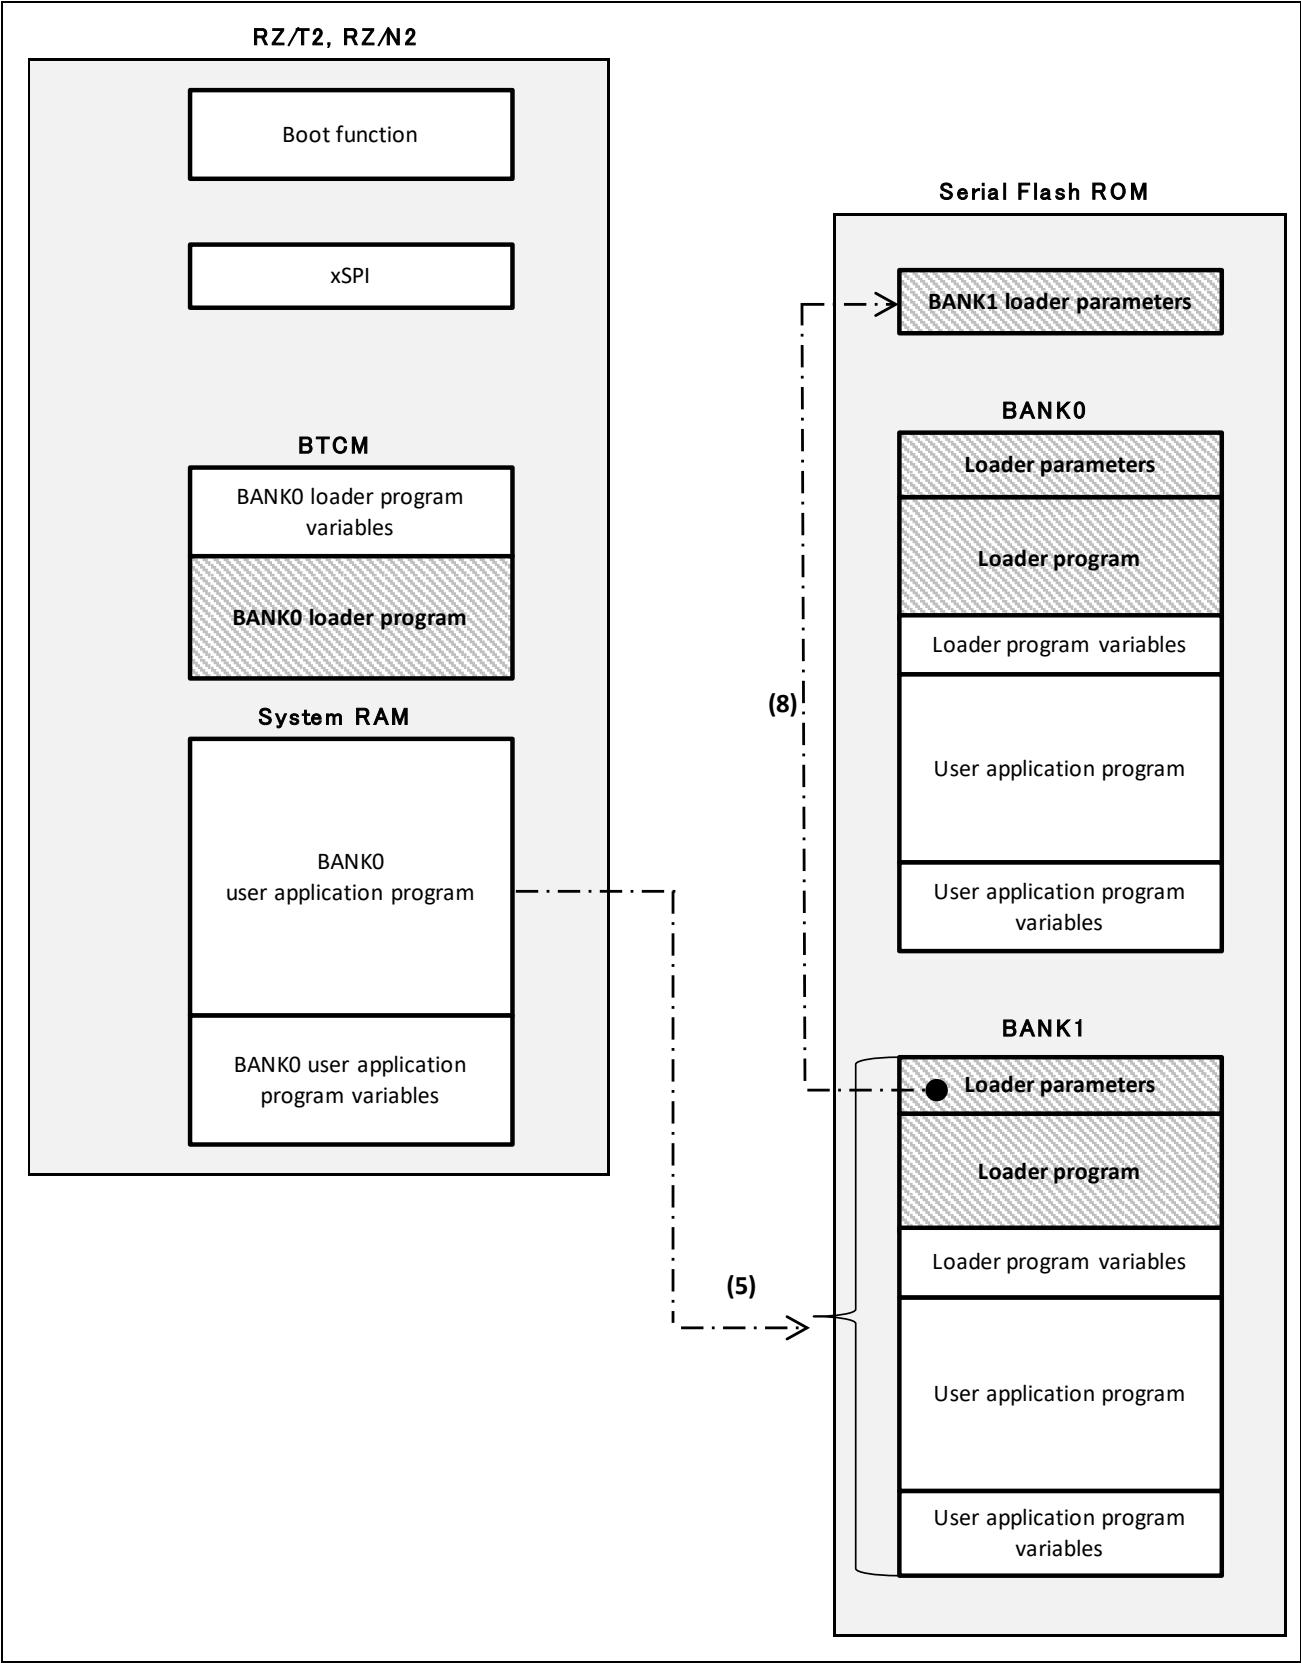

Figure 8.3 Operation for Updating Firmware in Bank 1
The following describes operation for updating the firmware by using the FoE while a user application program is running from the System RAM, with the procedure illustrated in Figure 8.3, Operation for Updating the Firmware in Bank 1.
- (1) The master sends the filename and password of the binary file for the updating firmware at the opening of the FoE, so check if the prefix of the filename and the password are correct. If they are correct, reception of binary data starts.
- (2) Erase the boot loader parameter area at the beginning of the serial flash ROM.
- (3) If the firmware update is interrupted for any reason, copy the BANK0 loader parameters to the boot loader parameter area so that the factory firmware can be started.
- (4) One sector (64 KB) is erased from the address where bank 1 starts. During erasure, the busy status indicator is returned so that the master does not reach the timeout time.
- (5) Data are received on completion of the erasure. The checksum attached to the received data is compared with the calculated. The data are stored in the reception buffer allocated for the storage of user application program variables in the System RAM. The data in the reception buffer are written to the serial flash ROM every time one page (256 bytes) of data is accumulated. An ACK packet is returned to the master.
On completion of writing one sector of data, erase the next sector (Figure 8.3 -(5) in the figure).
- (6) Repeat step 3 until writing all receiving data ends.
- (7) Erase the boot loader parameter area at the start of the serial flash ROM.
- (8) Copy the bank 1 loader parameters to the boot loader parameter area (Figure 8.3-(8) in the figure).
- (9) Update the revision number in the SII memory to the revision number of the updating firmware.